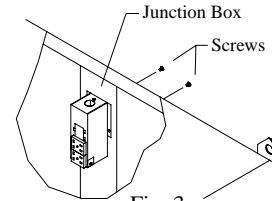

Fig. 3
- **Wiring.** The electrical junction box is located in the upper inside of the divider channel. Remove the two screws and pull the box out from the channel to access wiring (Fig. 3). Connect the pump supply wiring to the pump receptacles (See the pump wiring diagrams on the next page). Connect the motor supply wiring directly to the blower motor.